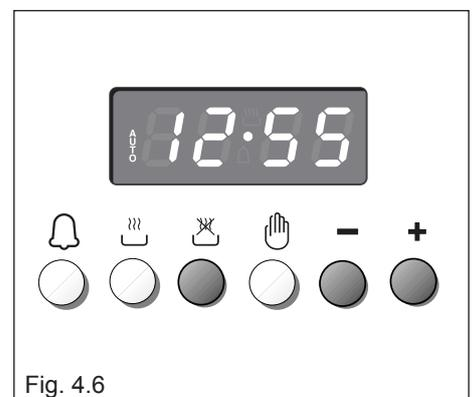

Fig. 4.6
2. Set the end of the cooking time by pressing the 🍳 button (the cooking time already added to the clock time will appear), and the + button (fig. 4.6); if you pass the desired time you may get back by pushing the — button.